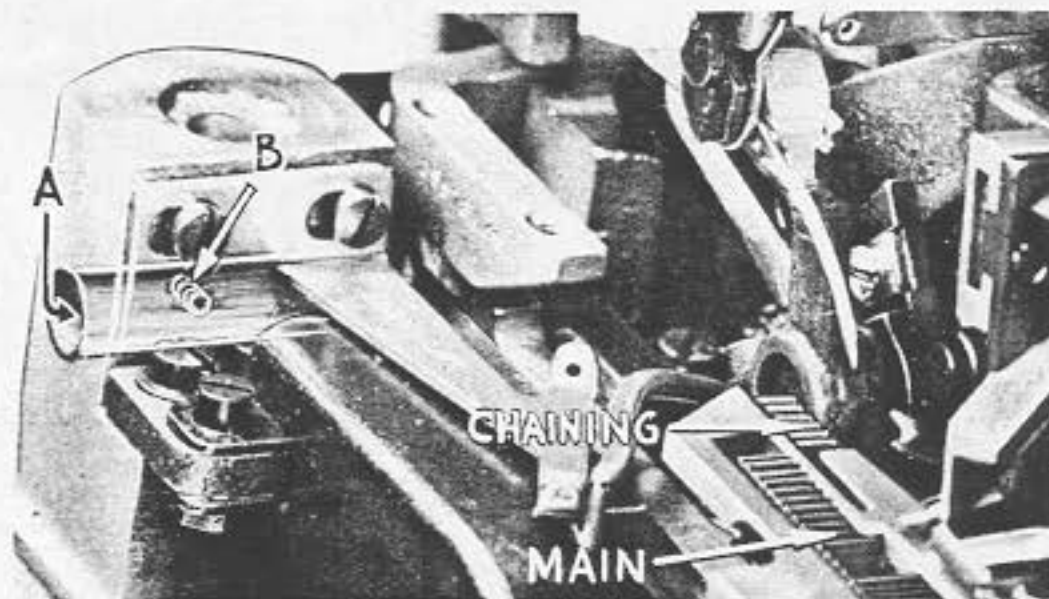

Fig. 11
Feed Dogs should be leveled with throat plate surface by rotating feed tilting adjusting pin (A, Fig. 11). This pin raises or lowers the back end of feed bar. Feed dogs should be set level at the time teeth first appear above throat plate. Screw (B) locks feed tilting adjusting pin in place. Now set feed dogs at highest point of travel: main feed dog teeth set $\frac{3}{64}$ inch above throat plate; and chaining feed dog teeth set about flush with surface of throat plate.